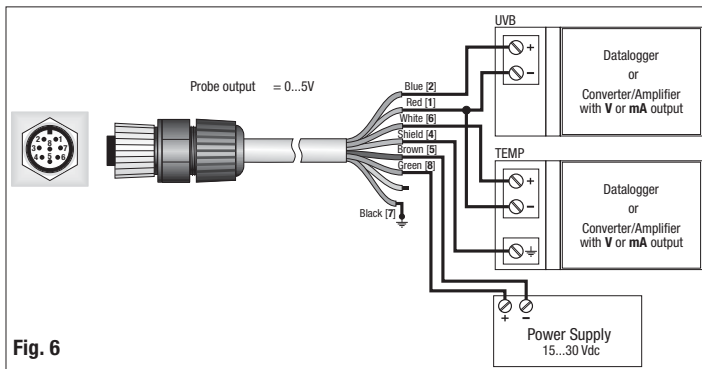

Fig. 6
N.B. The input load resistance of the data acquisition system must be greater than 10k Ω . The connection scheme is shown in figure 6.
The UV-resistant cable (supplied on request) has 5 wires plus the braid (screen); the colour code is shown in fig. 6.